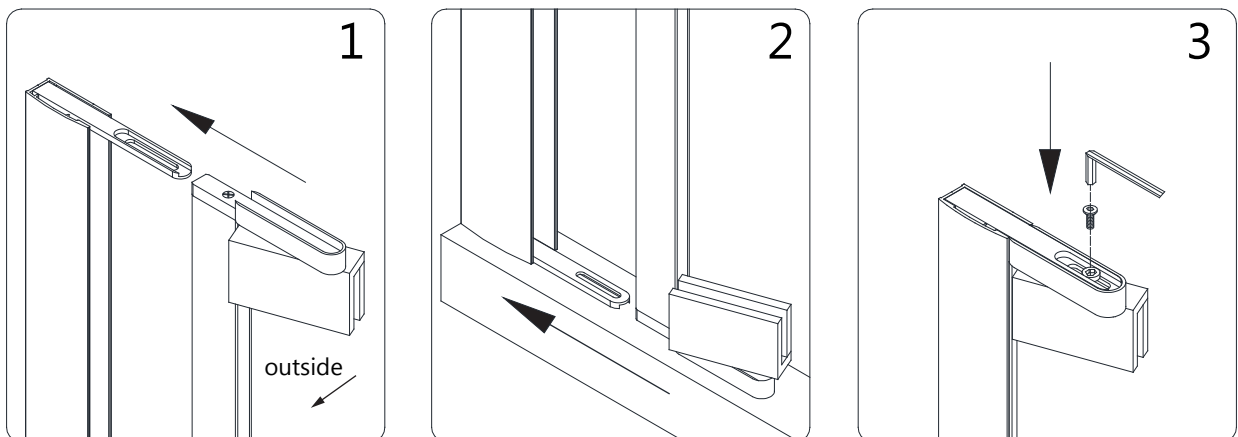

Fig 5
5. Slide the **Glass Profile for Pivot Side (#02)** with the attached **Pivot Assemblies (#07)** into the **Wall Profile for Pivot Side (#01)** and secure the top **Pivot Retainer (#08)** to the top **Pivot Assembly (#07)** with the **Round Head Socket Bolt M6×12 (#17)**. (Fig 5)